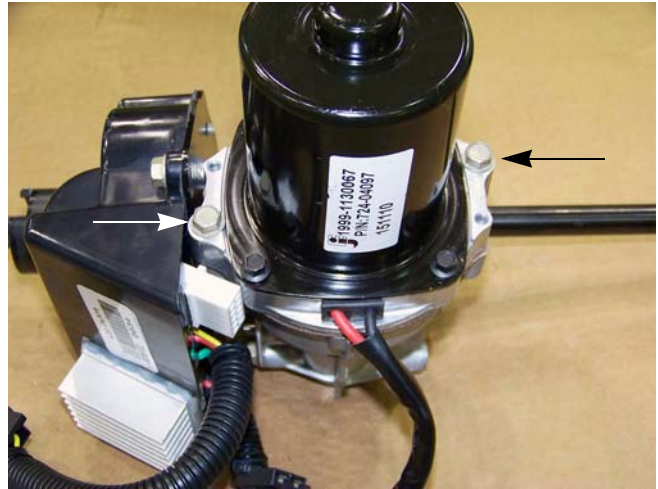

Figure 6B.10
3. Remove the two screws, indicated by the arrows in Figure 6B.10, that secure the motor base to the EPS using a 3/8" wrench.